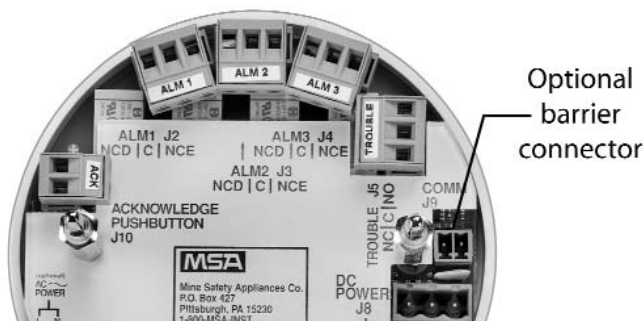

Figure 3
7. Wire for optional acknowledge push-button (J10) and/or optional relays (FIGURE 3).
8. Connect the optional HART barrier to J9 (FIGURE 3).